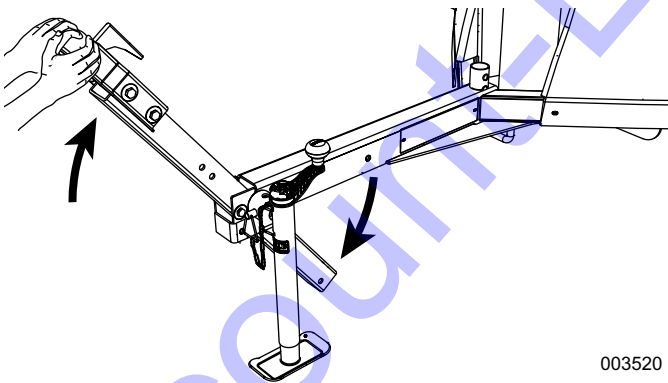

Figure 2-7. Pivot Trailer Tongue Into Storage Position
4. See **Figure 2-7**. Pivot trailer tongue into storage position.